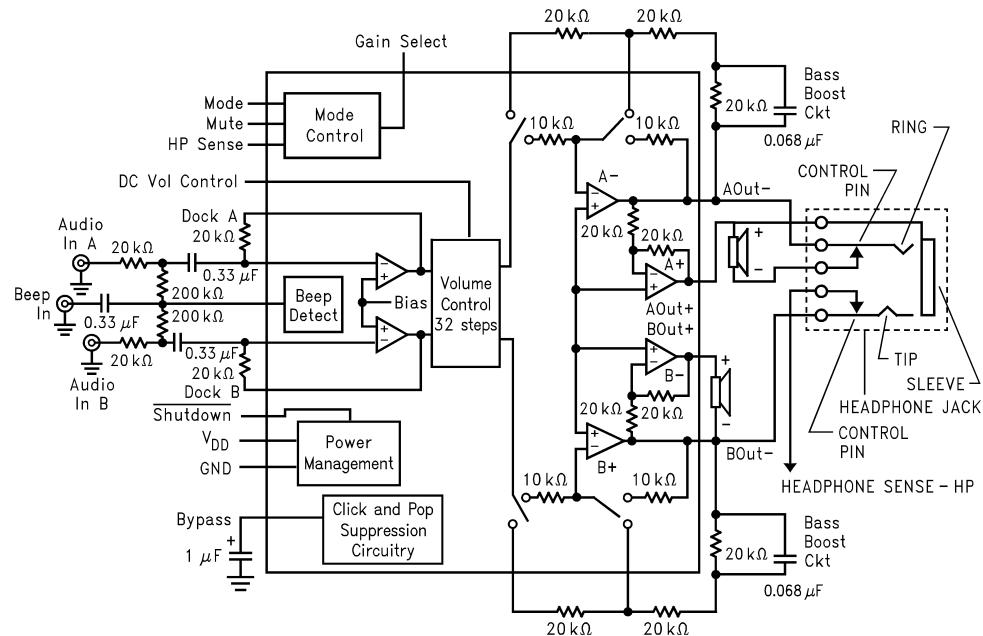

Figure 3. LM4841 Block Diagram
- (1) All voltages are measured with respect to the ground pins, unless otherwise specified. All specifications are tested using the typical application as shown in Figure 3.
- (2) *Absolute Maximum Ratings* indicate limits beyond which damage to the device may occur. *Operating Ratings* indicate conditions for which the device is functional, but do not ensure specific performance limits. *Electrical Characteristics* state DC and AC electrical specifications under particular test conditions which ensure specific performance limits. This assumes that the device is within the Operating Ratings. Specifications are not ensured for parameters where no limit is given, however, the typical value is a good indication of device performance.
- (3) Typicals are measured at $25^\circ C$ and represent the parametric norm.
- (4) Limits are specified to AOQL (Average Outgoing Quality Level). Data sheet min/max specification limits are specified by design, test, or statistical analysis.
(1) All voltages are measured with respect to the ground pins, unless otherwise specified. All specifications are tested using the typical application as shown in Figure 3.
(3) Typicals are measured at $25^\circ C$ and represent the parametric norm.
(4) Limits are specified to AOQL (Average Outgoing Quality Level). Data sheet min/max specification limits are specified by design, test, or statistical analysis.
(5) When driving 3Ω loads from a $5V$ supply, LM4841MH and LM4841LQ must be mounted to the circuit board and forced-air cooled.
(6) When driving 4Ω loads from a $5V$ supply, the LM4841MH and LM4841LQ must be mounted to the circuit board.